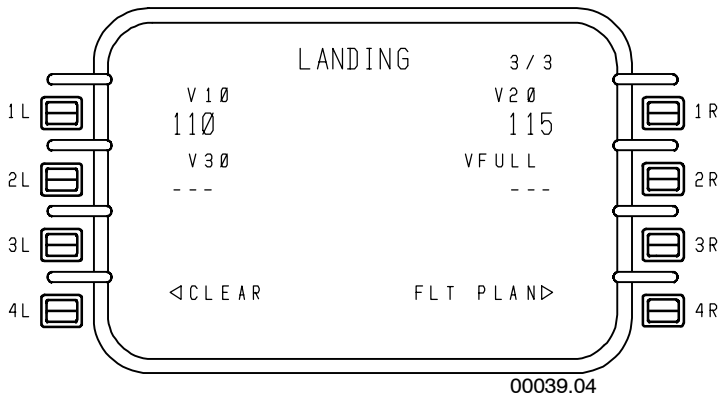

Figure 4-61
- **LANDING 3/3** – Figure 4-61 is used to enter landing speeds. This page can be configured with up to six speeds with various labels. Refer to VSPEED LABELS on page 6-170 for additional details.